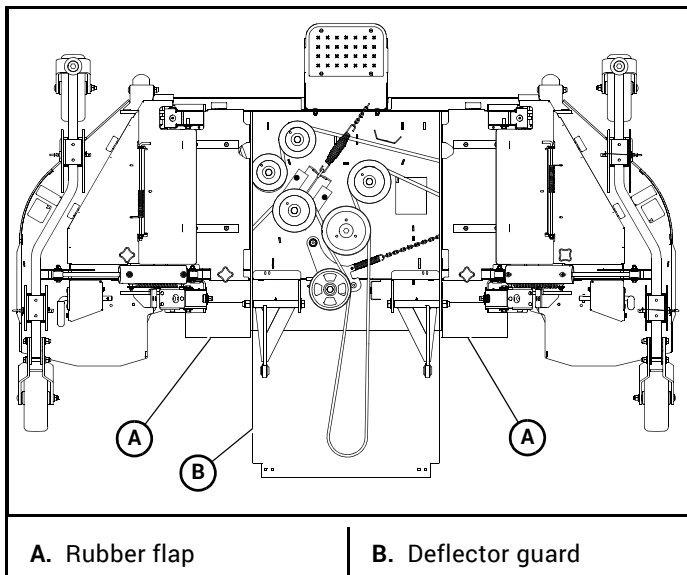

Figure 3-13
- Do not operate the mower without the rear discharge rubber flaps or power unit deflector in place. Figure 3-13